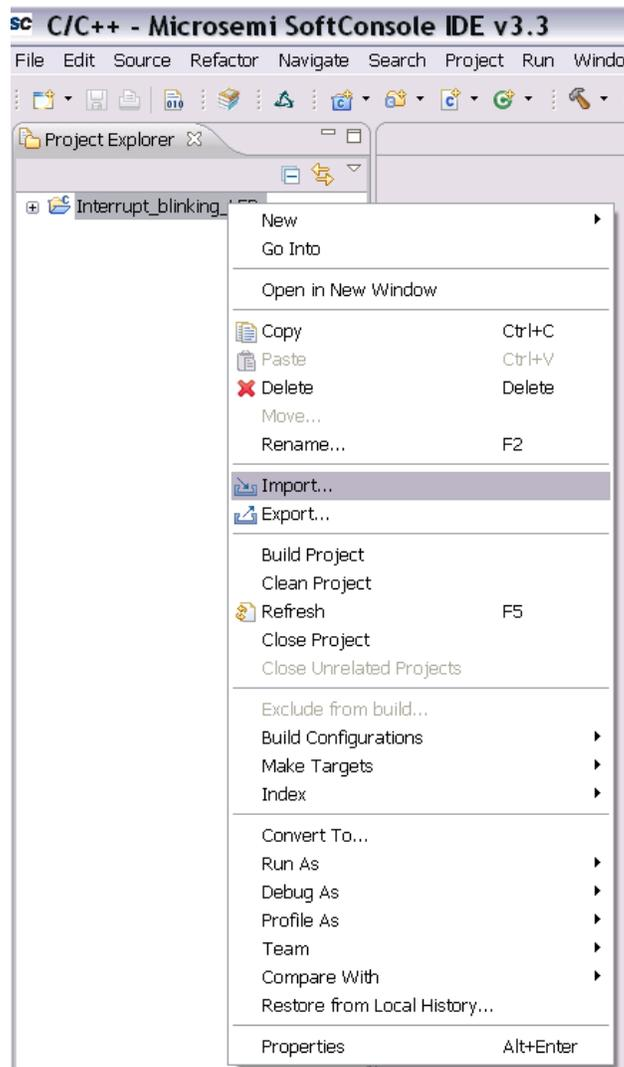

Figure 19 Importing Files into Project
- Right-click `Interrupt_blinking_LED` and click **Import**, as shown in Figure 19.